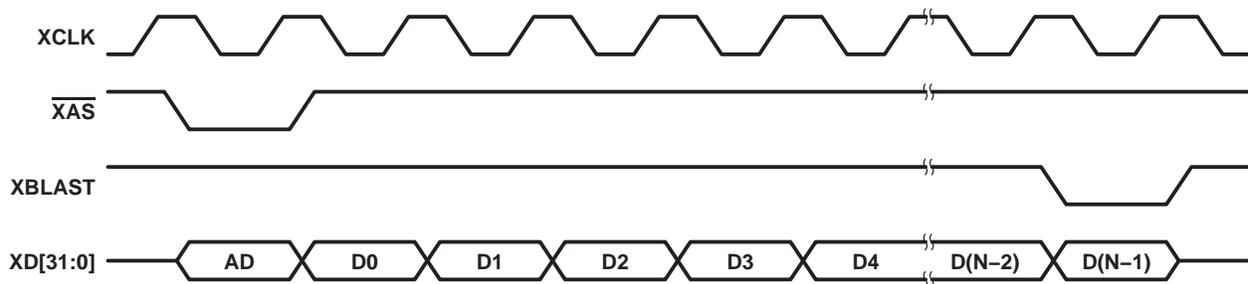
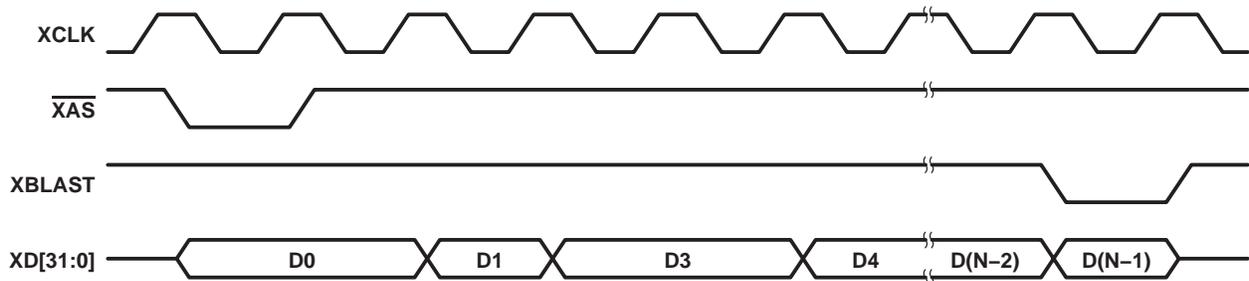
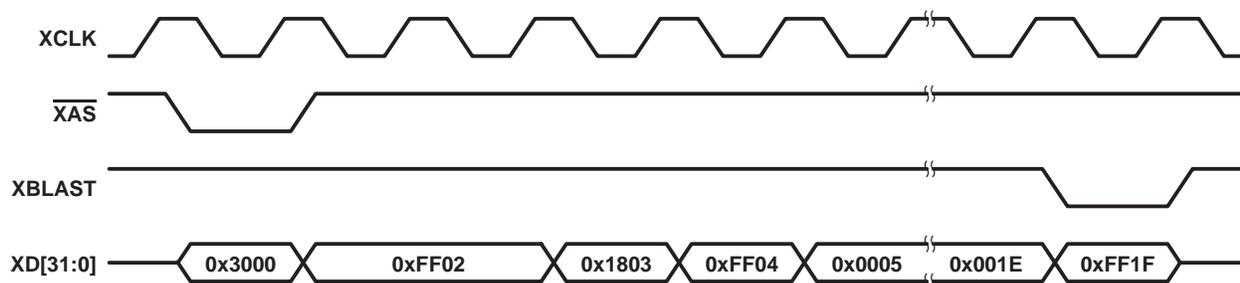

Figure 4. Correct Transfer of Address and Data via the Synchronous Host Port Mode of the Expansion Bus
Figure 5. Incorrect Transfer via the Synchronous Host Port Mode of the Expansion Bus.
Figure 6. Example Showing Partial Corruption
Details: While the expansion bus is operating in Synchronous Host Port Mode, certain expansion Bus output signals may be corrupted. The corruption occurs on output signals only and there are no known issues with any other XBUS modes (Asynchronous Host Mode, Asynchronous I/O Mode, or Synchronous FIFO Mode). In Synchronous Host Port Mode, some or all outputs of the XD signal lines move from the next word into the current word being transferred. This corruption not only affects the XD signal lines, but the output control signals as well (XAS, XBLAST, etc.). Figure 4 shows what a typical Synchronous Host transfer should look like. Figure 5 shows the address (AD), as well as data word 2 (D2) being corrupted by the next word. In this figure, the address is corrupted by D0 and D2 is written over by D3. Figure 6 is an example showing D0 being completely corrupted by D1 and D3 being partially corrupted by D4. The transfer should be 0x0001, 0xFF02, 0x0003, ..., 0xFF1F to Address 0x8000.